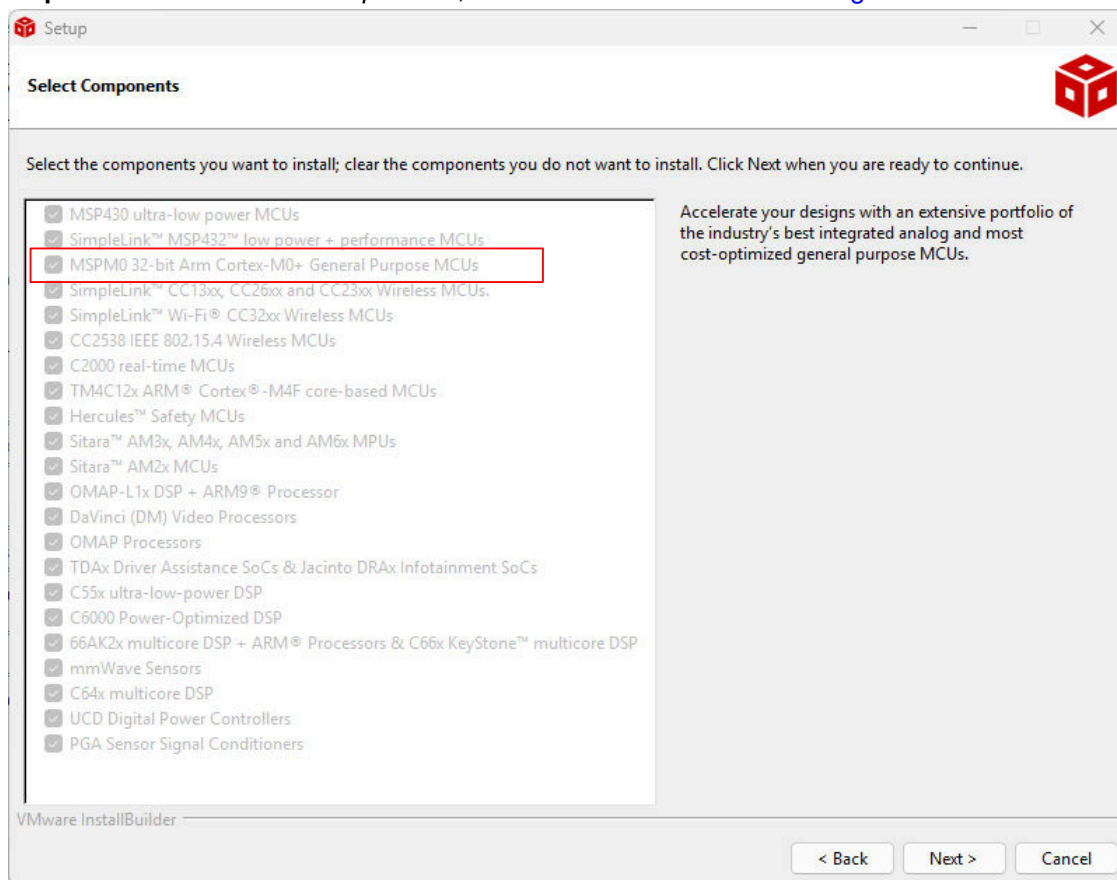

Figure 3-1. Installation Process of Code Composer Studio
- b. Follow the installation instructions to install Code Composer Studio. During the installation process, if you choose the *Setup type* to be *Custom Installation*, select **MSPM0 32-bit Arm Cortex-M0+ General Purpose MCUs** in *Select Components*, as marked with the red box in Figure 3-1.